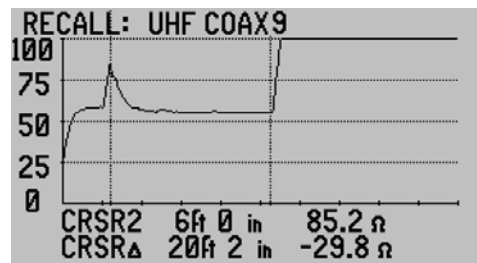

Figure 4-4
– Press to recall the highlighted trace. This action will return the TDR to the Measurement Screen with the selected trace as in the example shown in figure 4-4. "RECALL:" and the saved trace's name indicates a saved trace is being displayed.